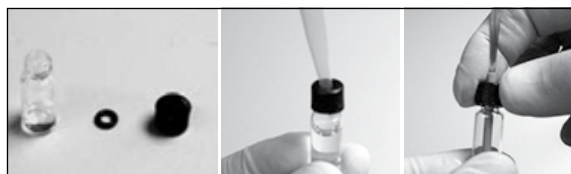

FIG. 1
- B. Fill glass bottle with ddH₂O and assemble capillary end with o-ring and screw cap (FIG 1).